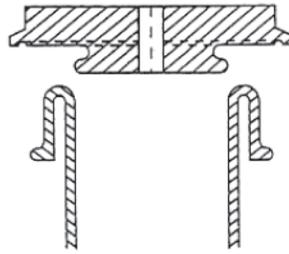

FIGURE 1
2. Remove the nuts and bolts on the four-inch clamp assembly (3). Remove the four-inch clamp gasket (2), the adapter plate (1) and the dampener screen (5).
3. Examine Figure 1. Assemble the bladder (8) onto the boss of the adapter plate (1). Note that this is a tight fit. The best assembly procedure is to fold back the "beaded" open end of the bladder and hold the bladder against the boss of the adapter plate. Then unfold the bladder bead over the boss, making sure that the bladder is evenly secured over the boss.
4. After installing the shock absorber valve O-ring (7), install the shock absorber valve assembly (6) snugly onto the adapter plate.
5. Lubricate the outside of the end of the bladder, which is affixed to the adapter plate, with a suitable lubricant. Then, slide the bladder adapter plate assembly into the dampener screen (5). There should be a snug fit between the open end of the screen and the bladder.
6. Stand the dampener housing (4) on end. Place the four-inch clamp gasket (2) on the dampener housing ferrule. Insert the dampener screen into the dampener housing and center the supporting ring in the gasket. Assemble the clamp sub-assembly over the ferrule. Assemble the bolts and nuts and tighten.